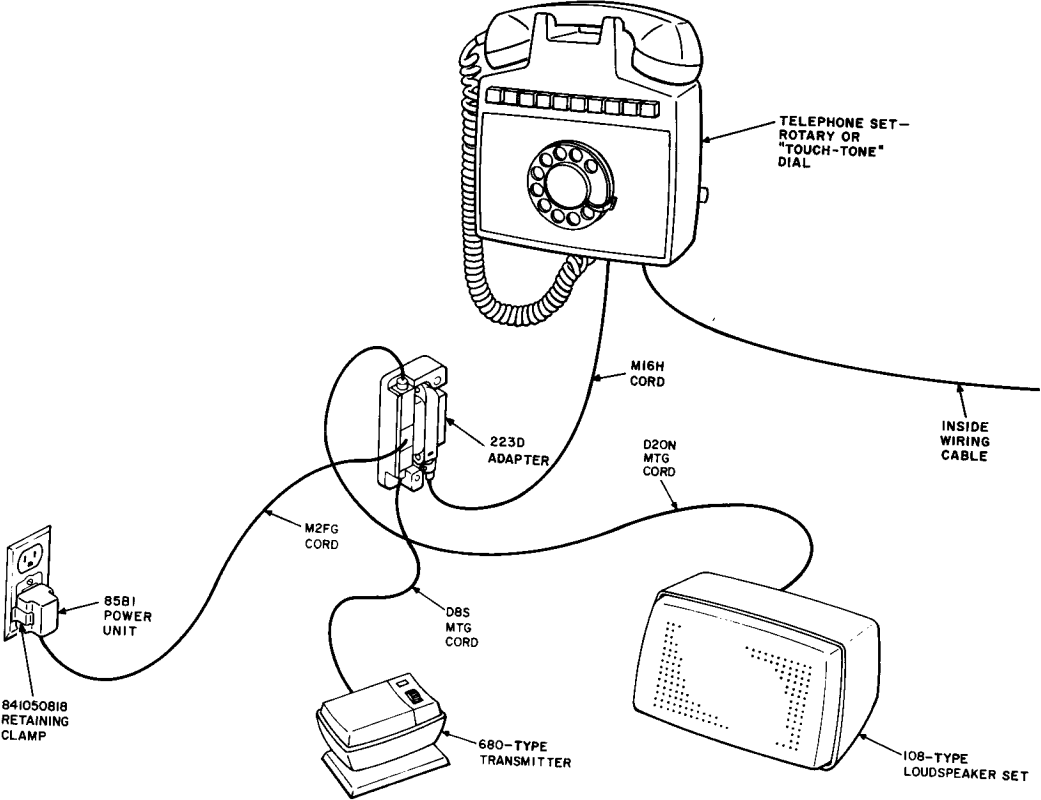

Fig. 1—4A Speakerphone System Arrangement, 10-Button Wall Telephone Sets
- 2.09** Power can be provided by making connections as shown in Fig. 1 and 2.